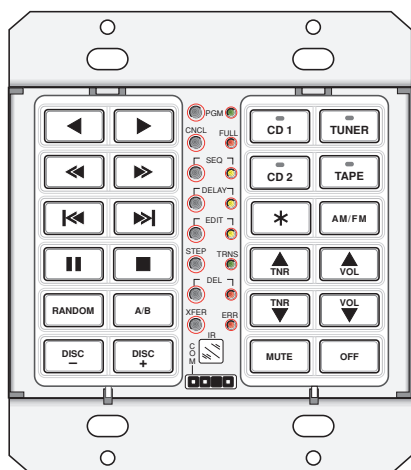

Fig. 2 Two Gang Button Assignments
5. We begin this process by assigning the **Source** buttons first; **CD1**, **TUNER**, **CD2** and **TAPE**. See **Fig. 2**.
7. Now that all the buttons have been assigned (as shown in **Fig. 2**), it is necessary to insert them into the **KM1F** and the **KM4** module shells. Then insert the completed key modules into the **PM110**. See page 18 for Button and Module Assembly instructions.